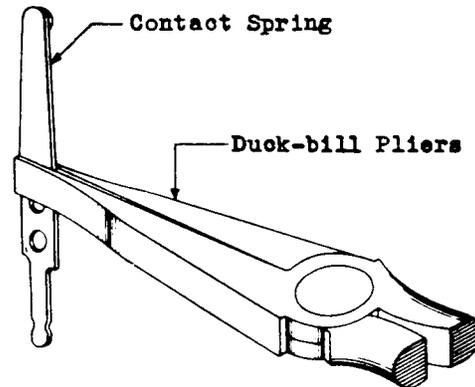

Fig. 4 - Method of Adjusting for Contact Pressure
(4) Contact Pressure: To tension a contact spring, remove the key top as outlined in 3.02, (2) and the key unit as outlined in 3.02, (9). Remove the spring assembly screws with the 3" cabinet screwdriver and remove the spring taking care not to lose the insulators or clamping plates. Then tension the spring in the direction of the contact discs with the duck-bill pliers applied as shown in Fig. 4. Take care when adjusting a contact spring not to kink it.